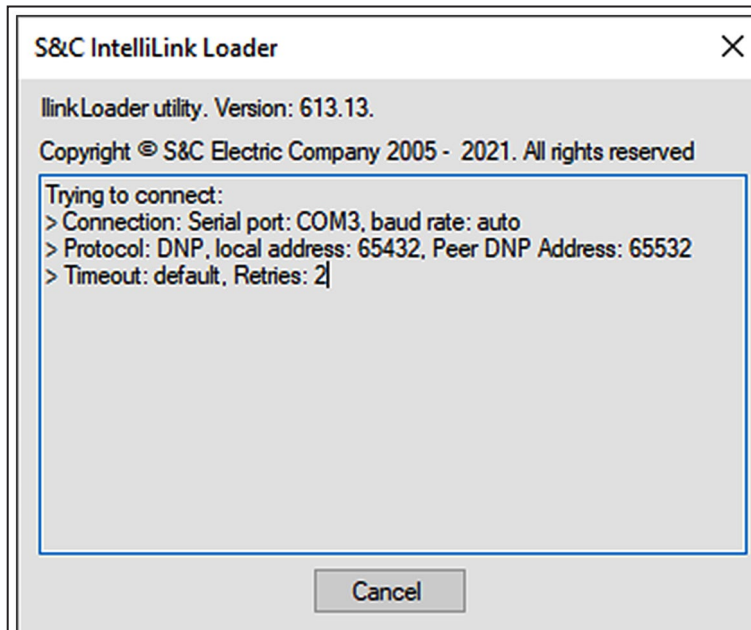

Figure 17. The S&C IntelliLink Loader dialog box.
STEP 7. The S&C IntelliLink Loader dialog box will open followed by the S&C IntelliLink Log in dialog box. See Figures 17 and 18 on page 20. Enter the User Name and Password, and click on the **OK** button. Contact the Global Support and Monitoring Center at 1-888-762-1100 when assistance with these entries is needed.